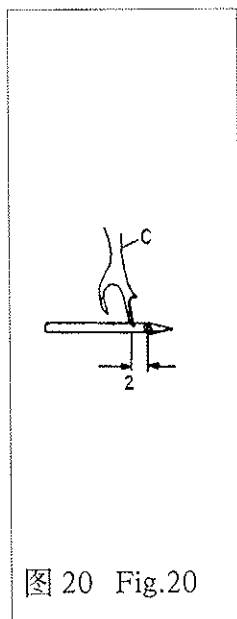

图 20 Fig.20
钩线叉的左右位置,当钩线叉的长叉尖与机针中心线相交时,长叉尖中心到机针穿孔左边的距离为 2 毫米左右(图 20)。
When the pronged thread hook intersects the central line of the needle, the center of pronged thread hook is deviated from the left side of the needle eye in 2mm distance (Fig.20)
(3) 钩线叉高低位置 钩线叉的高低位置以钩线叉叉尖与机针相交(图 20)时, 间隙很小但又不相撞为佳, 一般要求间隙不大于 0.05 毫米。
Make the prong of thread hook intersect the needle (Fig.20) on condition that prong shall not come into contact with the needle. The interval between the prong and the needle shall be less than 0.05mm